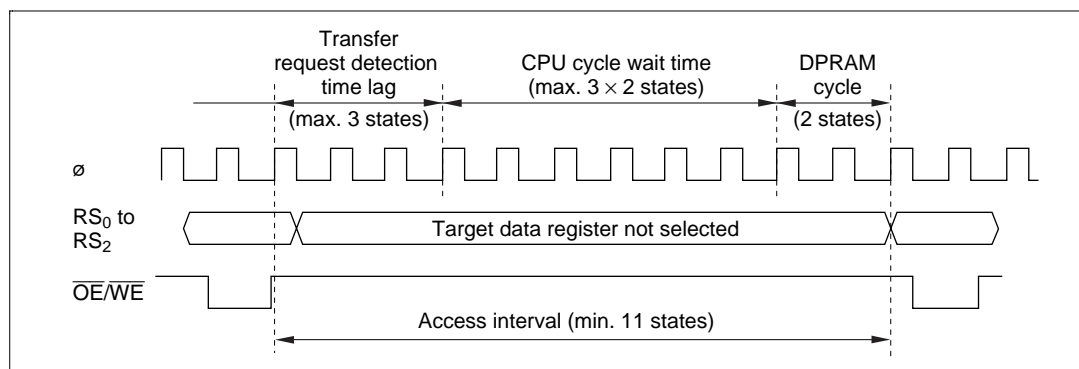

Figure 5.32 Buffer Query Mode Address Write to Data Read Access Interval
- Buffer query address write to data read access interval: 11 states (see figure 5.32)